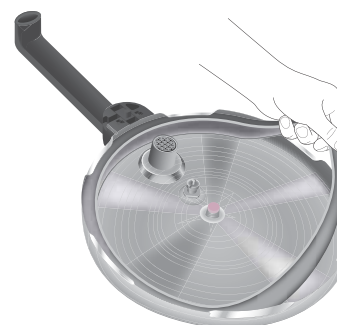

Abb. 6: Detaching the sealing ring
6. Detach the sealing ring from the edge of the lid (see fig. 6).